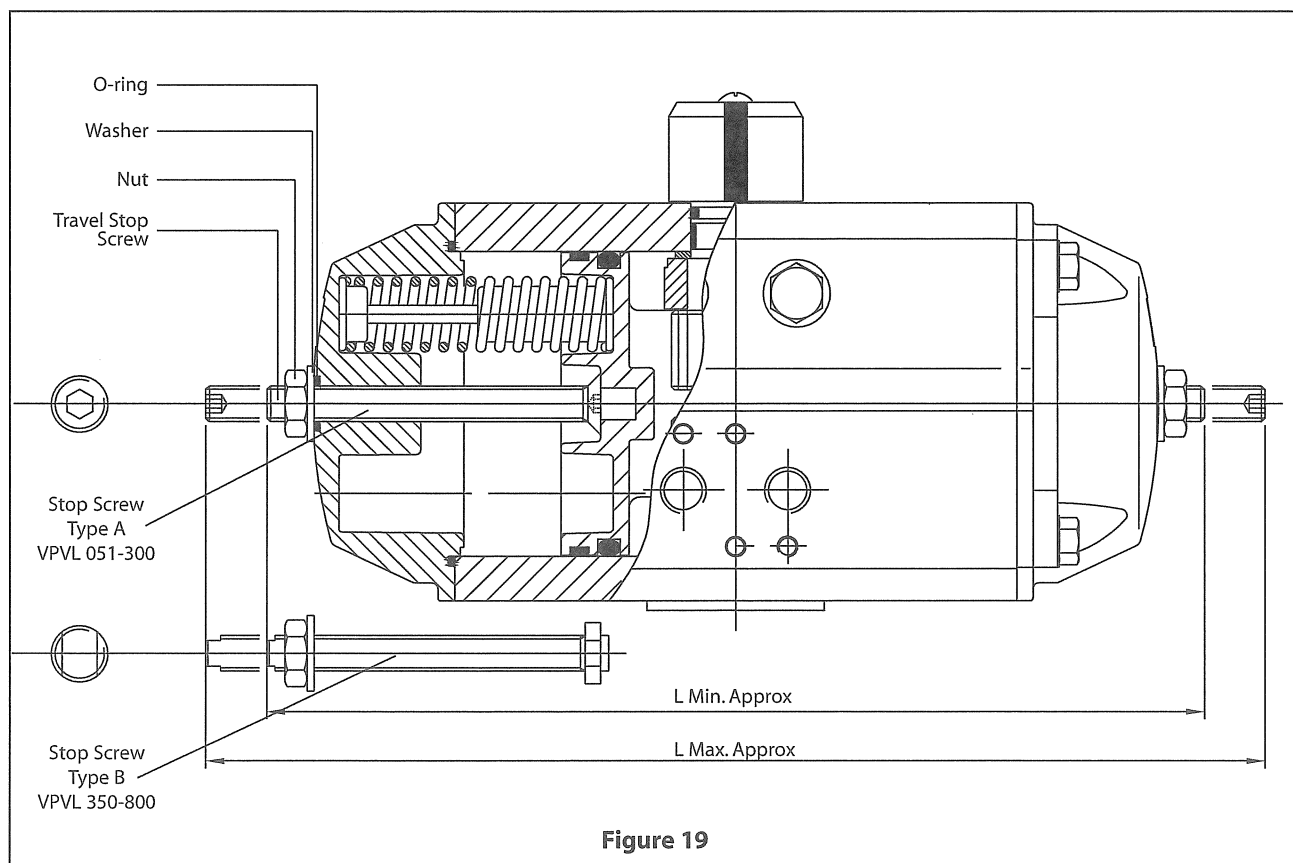

Figure 19
7. Setting 100% Adjustable Stop (If applicable). (Figure 19):